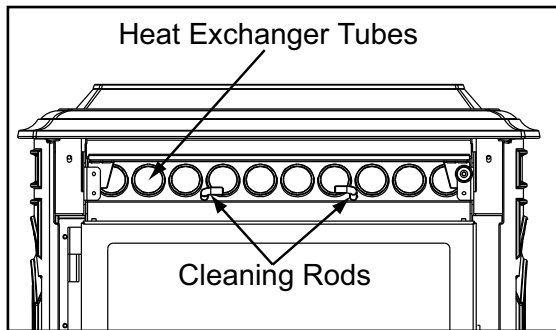

Figure 29.1
- a. Allow the appliance to completely cool down before pulling the cleaning rods. Turn the thermostat on and then immediately off to start the exhaust blower on its cycle time. It will pull fly ash out the exhaust instead of into the room. Open the cast hinged face to access the 2 cleaning rods. **See Figure 29.1 on page 29.**